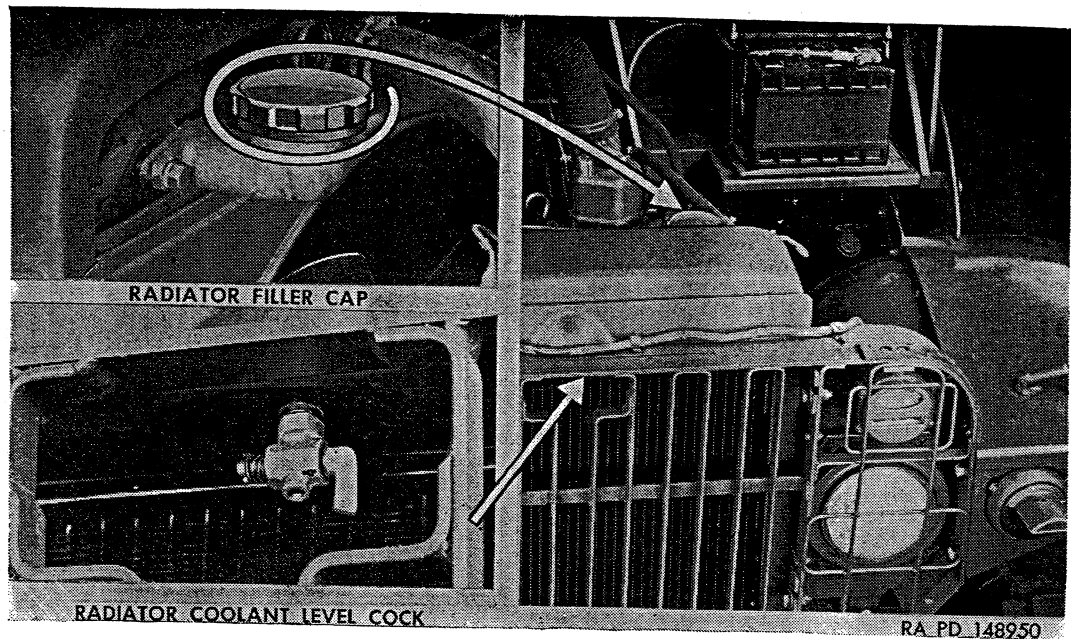

Figure 138. Radiator fillercap and level cock.
*a. Filling System.* Be sure that drain plug marked WATER on pan at bottom of transmission is installed, and that drain cock at the left rear of cylinder block and at bottom of radiator are closed (fig. 140). Open level cock (fig. 138) at top front of radiator. Remove threaded fillercap from filler neck; then fill system until water is visible in filler neck. Close level cock and continue to add water until no more air bubbles can be seen. Run engine a few minutes to further expel air; then add more water to bring level up to level cock.
*b. Draining System.* Refer to cooling system draining instruction plate (fig. 139) mounted on instrument board (fig. 29). Run engine at fast idle until normal engine operating temperature is reached (thermostat opens) to stir up any loose rust, scale, etc. Open water level cock (fig. 138) to relieve system pressure. Remove plug at bottom of transmission, marked WATER, also open drain cock at left side of cylinder block and at bottom front of radiator core (fig. 140).
- (1) *Removal.* Open water level test cock (fig. 138) to drain system below pressure valve. Pry out valve retaining ring; then remove pressure valve assembly (D) from radiator upper tank. Remove and discard valve gasket.
- (2) *Installation.* Place new gasket on pressure valve seat. Locate pressure valve assembly in place; then install retaining ring. Be sure retaining ring enters groove all the way around. Fill cooling system (par. 142a) and close water level test cock (fig. 138).